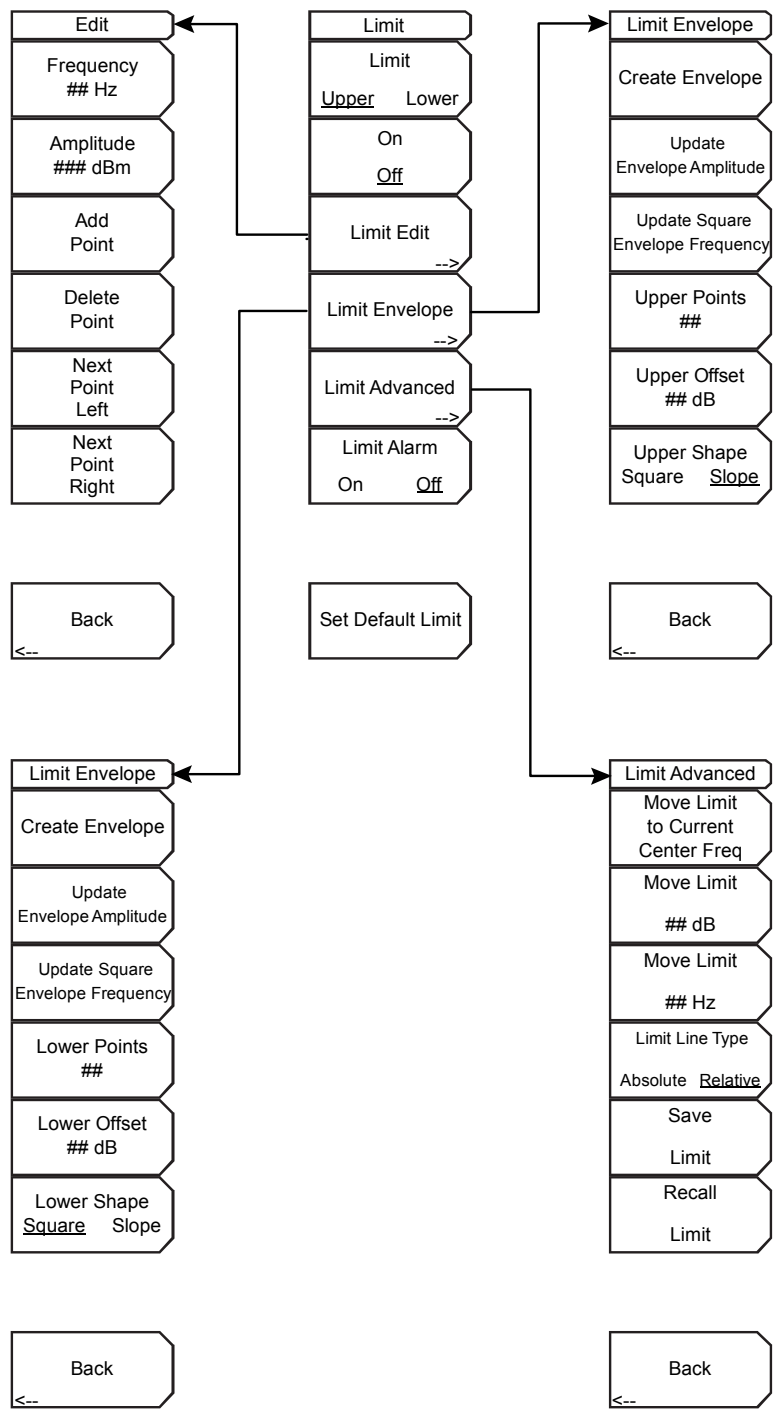

Figure 4-26. Limit Menu Soft Keys
To access the functions under the Limit menu, press the **Shift** key, then the **Limit (6)** key. The Limit menu soft keys are shown in Figure 4-26.